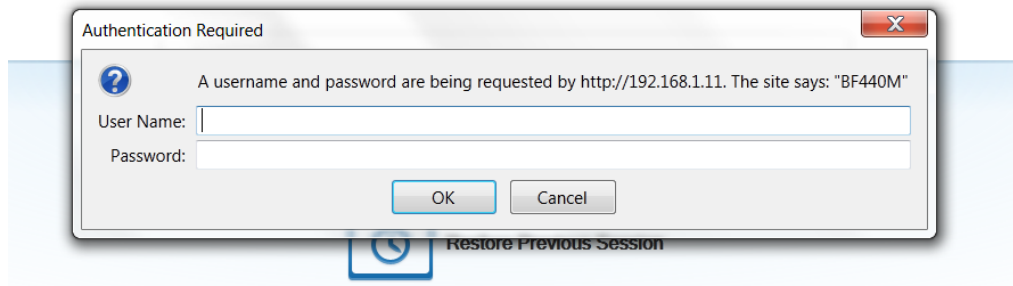

Figure 14: Ethernet / Serial Login Page
1. Using an Ethernet straight cable from a PC to the RJ45 Connector (**LAN #1**) on the CM145 Interface box, open a web browser and type "192.168.1.11". This will take you to a login page as shown in Figure 14: Ethernet / Serial Login Page (Page 29).